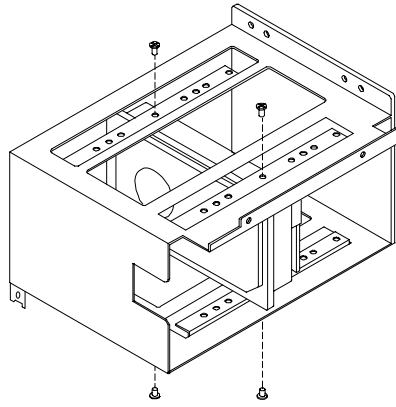

Figure 4-22. Removing the Drive Bay out of the Chassis
12. Position the drive in the chassis and secure with four screws. See Figure 4-22.
- 13.** If you are removing a hard disk drive, remove the four screws securing the drive to the drive bay. See Figure 4-22.